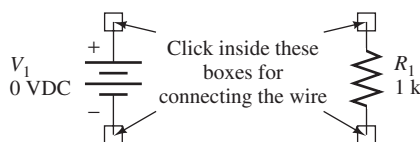
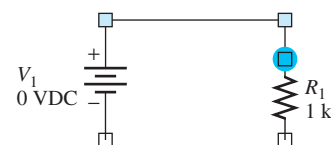

FIGURE 2.65 Empty square box on voltage source and resistor.
FIGURE 2.66 Colored circle for connection confirmation.
7. To connect the voltage and resistor, click “Place” > “Wire,” or the icon  on the vertical bar to the right. Left-click inside the square box of the voltage source (shown in Figure 2.65) to create the connection between the voltage source and the wire. For the other end of the wire, click on the empty square box of the resistor to create a connection between the voltage source and the resistor. A colored solid circle will appear during the connection if it is connected properly (shown in blue in Figure 2.66). Right-click and choose “End Wire” after connecting the wire to the resistor.